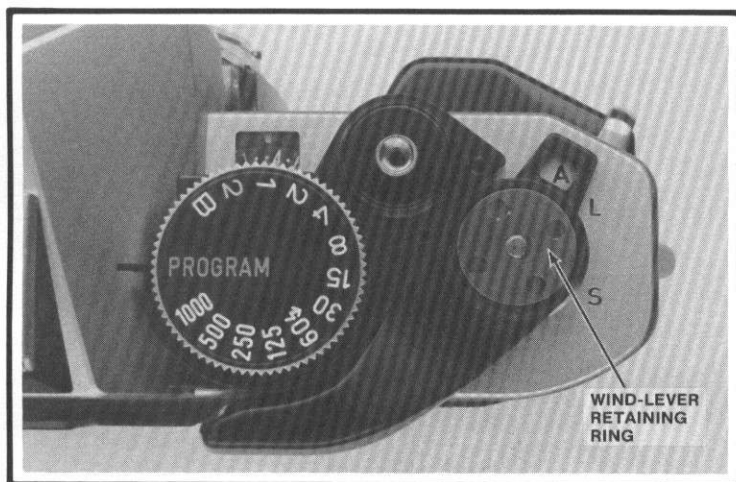

Figure 10
9. Unscrew the wind-lever retaining ring, Fig. 10. Note the 2 loose washers between the retaining ring and the wind lever. The wave washer goes next to the retaining ring, and the plastic washer goes next to the wind lever.